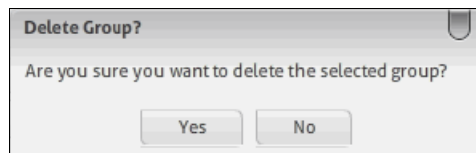

Figure 5-20 Confirmation to delete a group
3. Confirm that you want to delete the group by clicking **Yes**, as shown in Figure 5-20.